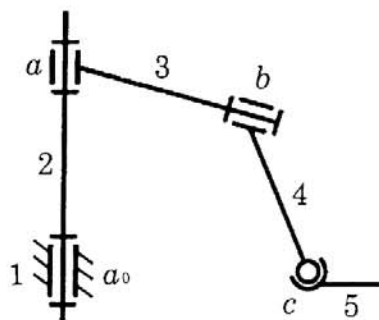
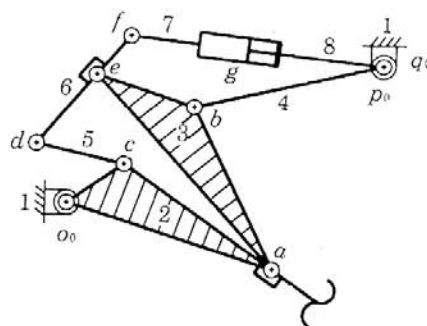

Fig. 1a
Fig. 1b
1. Calculate the degrees of freedom of the mechanisms shown in Fig. 1a and Fig. 1b. (20%)